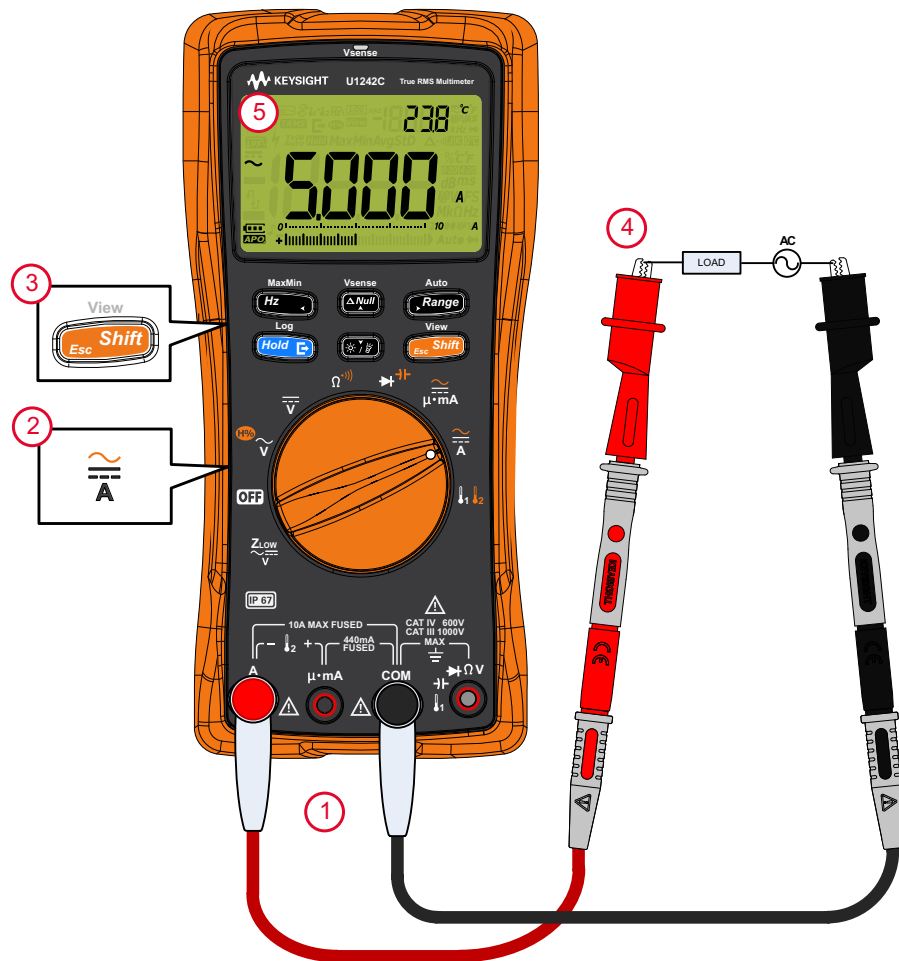
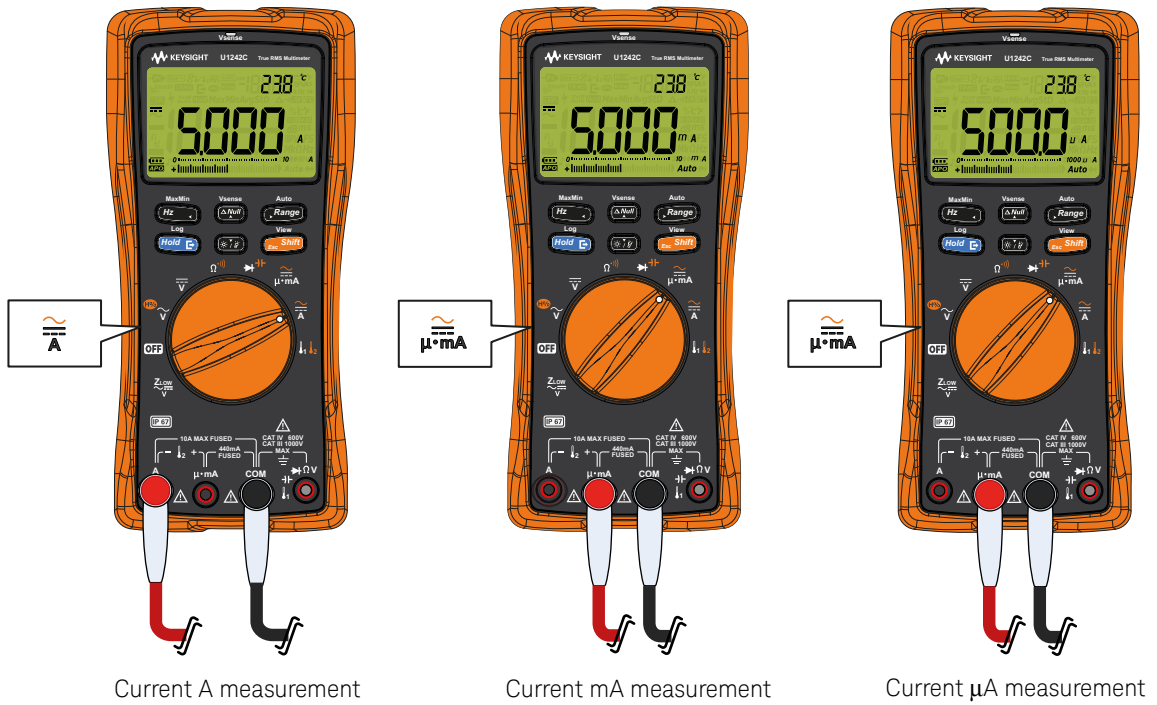

Figure 2-26 Measuring AC current
Figure 2-27 Current measurement setup
Set up your multimeter to measure AC or DC current as shown in **Figure 2-26** and **Figure 2-27**. Open the circuit path to be tested. Probe the test points and read the display.
- To avoid blowing the multimeter's 440 mA fuse, use the μmA terminal only if you are sure the current is < 440 mA. See **Figure 2-27** for test lead connections and function selection. Refer to the **Alerts and warnings during measurement** section for information on the alerts the multimeter uses for hazardous current or when leads are not used correctly during current measurement.